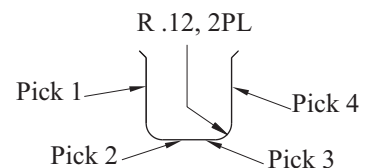

Figure 5-21 Selection Points for the .12 Radius Fillets
42. Pick each vertical and horizontal line, as shown in Figure 5-21. Press Enter after all four picks to accept the fillets.